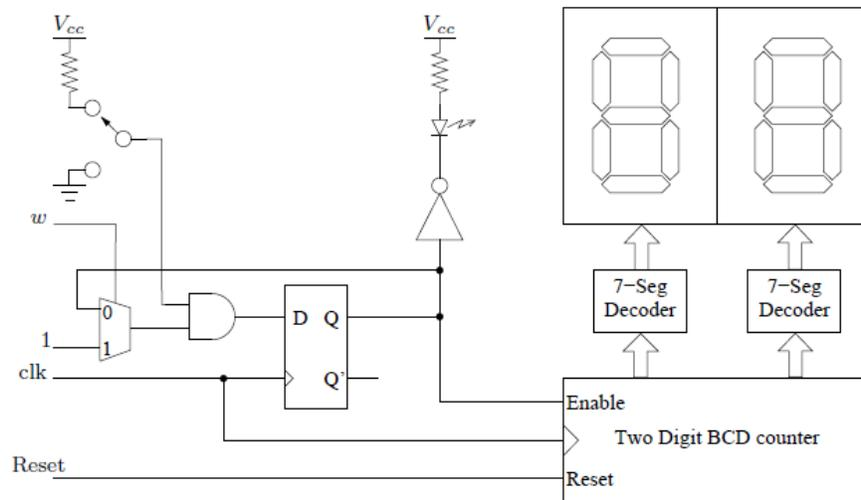

Figure 1. Circuit For Testing Your Reaction Speed.
In this lab you will design a sequential circuit to test your reaction speed. The basic idea is that you hit a switch as soon as you see an LED light up. The amount of time you took to react will be displayed on two 7-segment displays. Figure 1 shows the overall circuit that you will design and build. You will use a clock clk to drive a two-digit counter, the w signal will be a pulse that lights the LED. The LED will turn off as soon as you hit the switch, and the signal $Reset$ can be used to reset the counters, the display and get the circuit ready to start over.
2. Now that you have a 100Hz clock, you can use that to count the time it takes you to press the switch after the LED goes on and display that on two 7-segment displays. To accomplish this you will need to write a code that will increment the least significant digit and every time it reaches the number 9 you reset it and increment the most significant digit. Write a Verilog code to implement the two digit BCD counter as shown in Figure 1.
3. Write a Verilog code to implement the entire circuit as shown in Figure 1. Use one of the LEDs on your board.